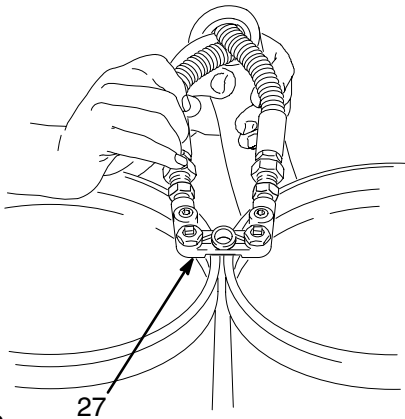

Fig. 20
1. Open the feed pump air valves (8).
3. With the gun disconnected from the manifold, hold the manifold (27) so each outlet port is directly over a separate waste container as shown in Fig. 20.